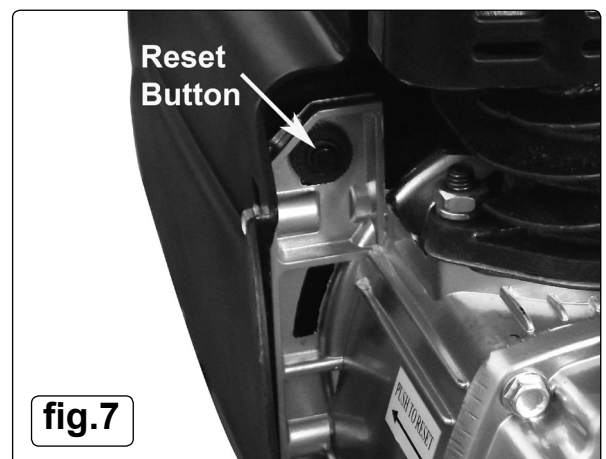

fig.7
- 6.15.1. Thermal cut out: If the unit overheats the thermal cut out will operate and shut the unit down. Allow the unit to cool down then press the reset button, located just inside the pump cover (fig.7).